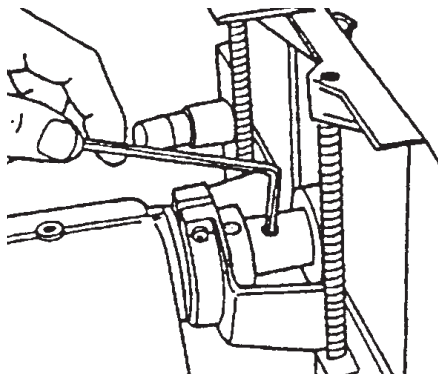

Figure 97
2. Fit the Lower Saw Guard's Clamp on the Spindle Quill. Line up the Arbor Set Screw with the Spindle Knob's Set Screw (where the Spindle Flat is located). Use a 5/32" Allen Wrench to tighten the Arbor Set Screw, as in Figure 97.